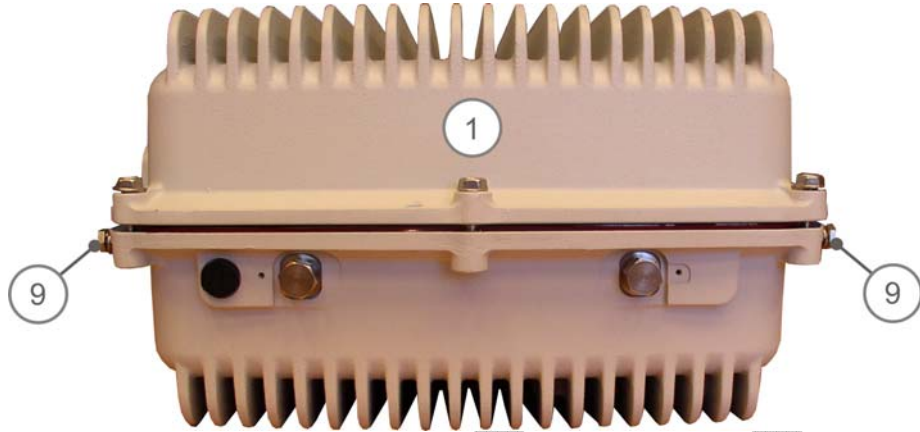
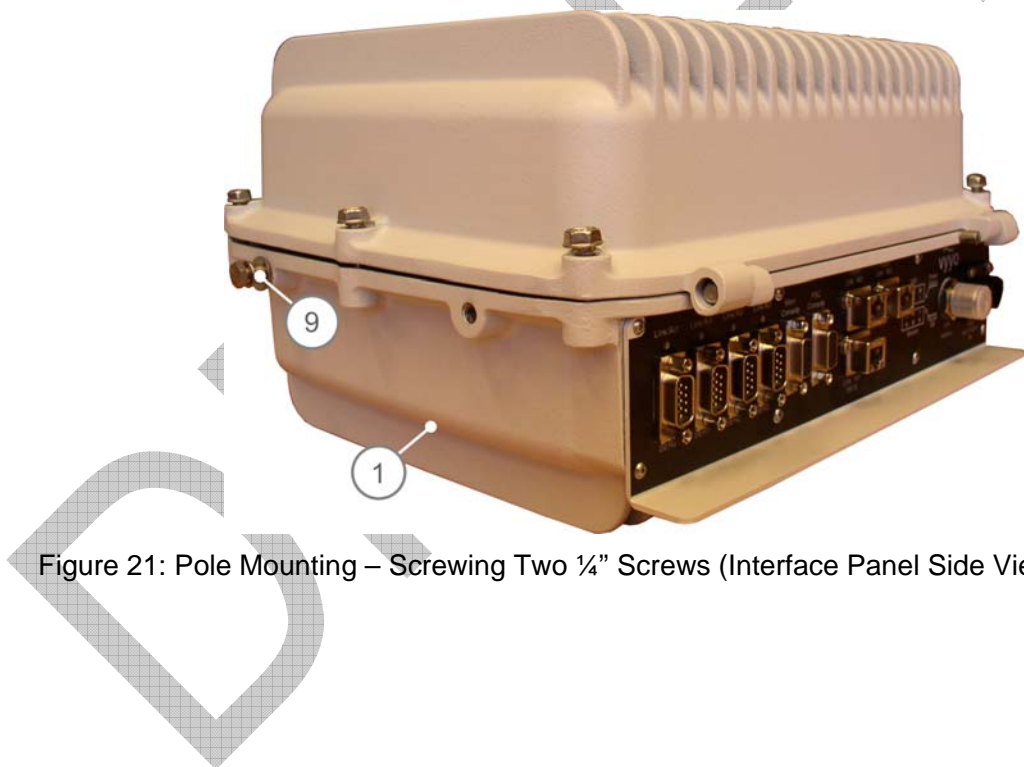

Figure 20: Pole Mounting – Screwing Two  $\frac{1}{4}$ " Screws (WiFi Antennas Side View)
Figure 21: Pole Mounting – Screwing Two  $\frac{1}{4}$ " Screws (Interface Panel Side View)
5. Screw two assembled  $\frac{1}{4}$ " screws (9) into the V390i, one on either side, close to the WiFi Antennas side (see Figure 20 and Figure 21). Do not tighten the screws.